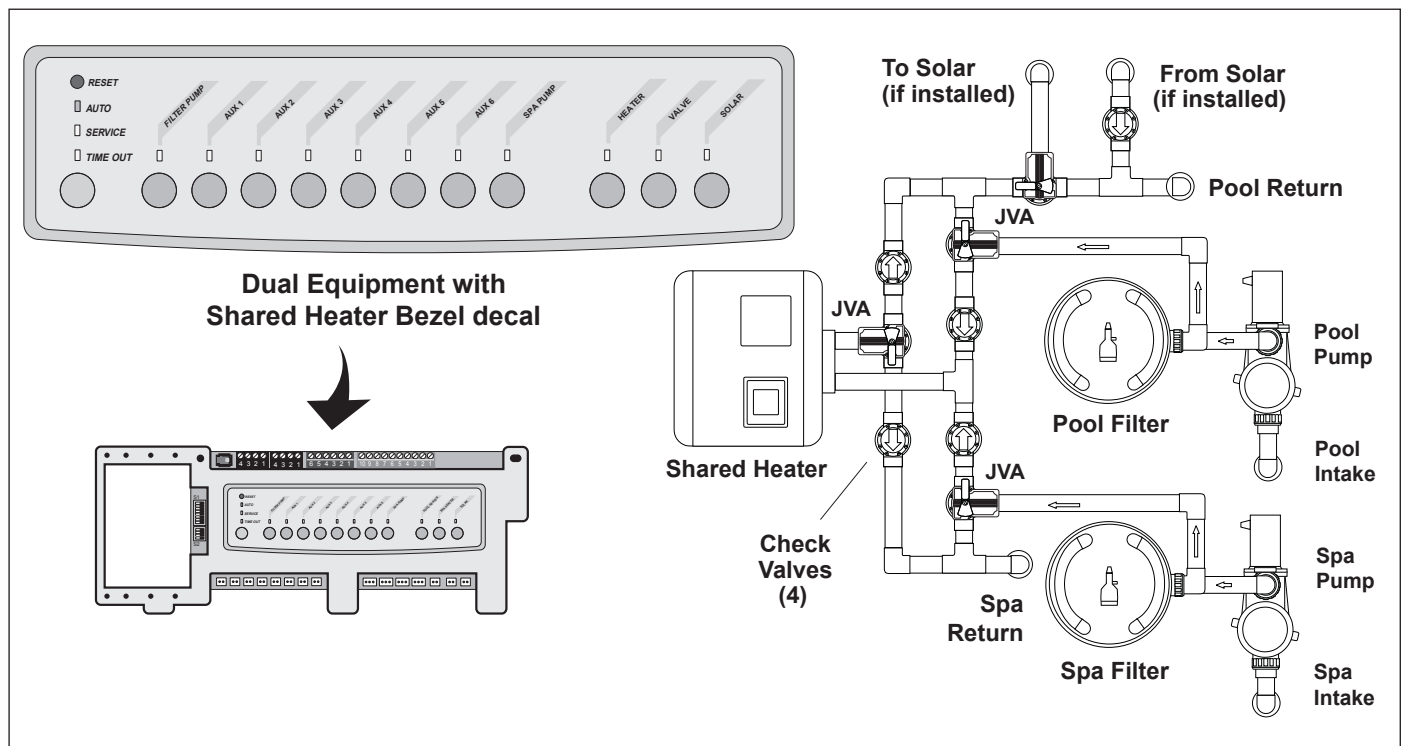

Figure 5. Dual Equipment System with One (1) Heater
When the system setup is using only one (1) heater, plumb the equipment as shown in Figure 5.
3. Turn the actuator over to see into the actuator shaft. There are four (4) "teeth" inside of the shaft. Align with the smallest slot on the valve (see Figure 5).